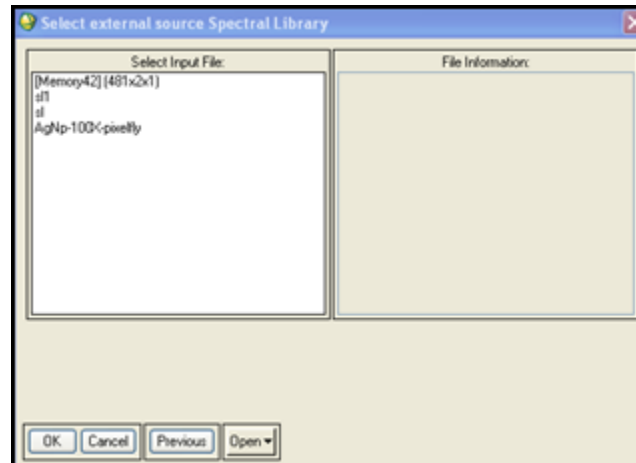

Figure 9.1d: Selecting the External Source Input File
- The Select external source Spectral Library box opens. Select which input file to use for the external source (Figure 9.1d). Click OK.